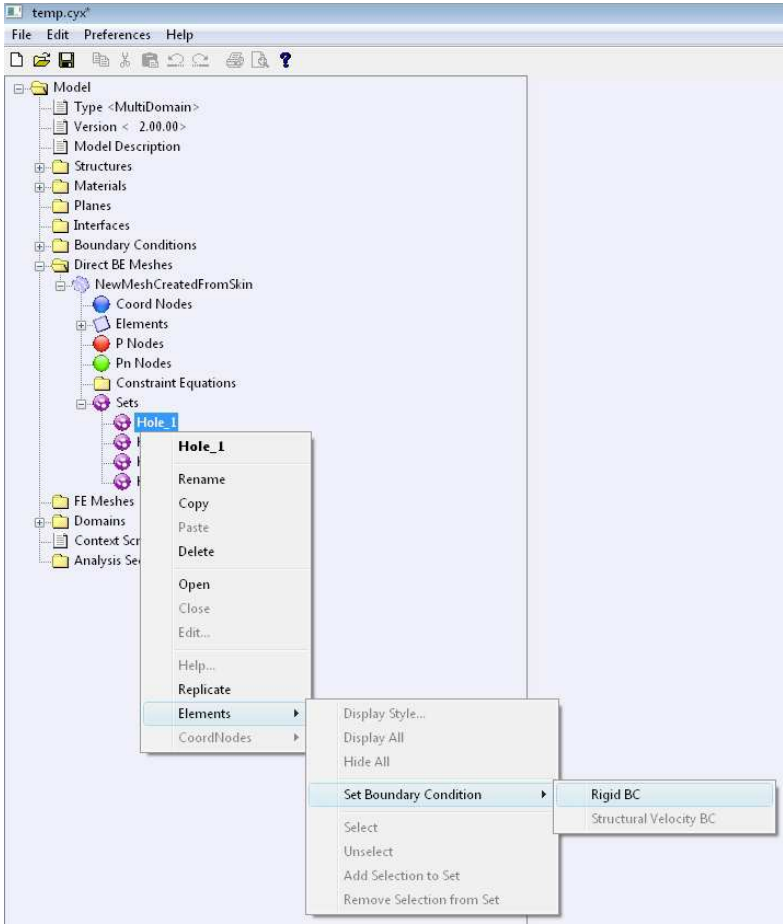

Figure 9.19: Apply boundary conditions through sets.
- Right-click on **Holes_1** and select: **Elements** → **Set Boundary Condition** → **Rigid BC** as shown in Figure 9.19.